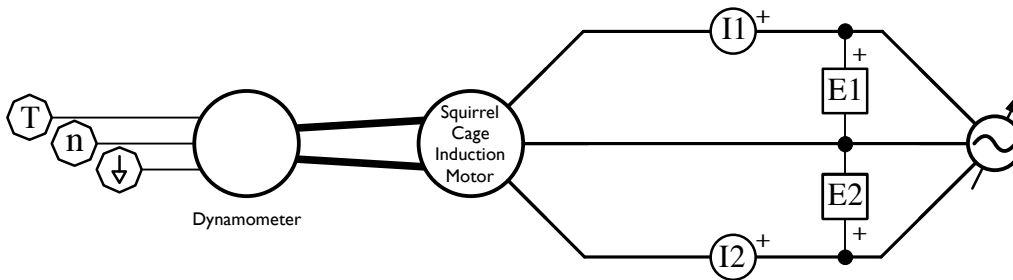

Figure 4.14: Three-Phase Squirrel Cage Induction Motor Circuit
- 5. Connect the squirrel cage motor to the variable ac power supply as shown in Figure 4.14. Connect the motor to the dynamometer with the timing belt, and connect the data cables for torque and speed to the the DAI.